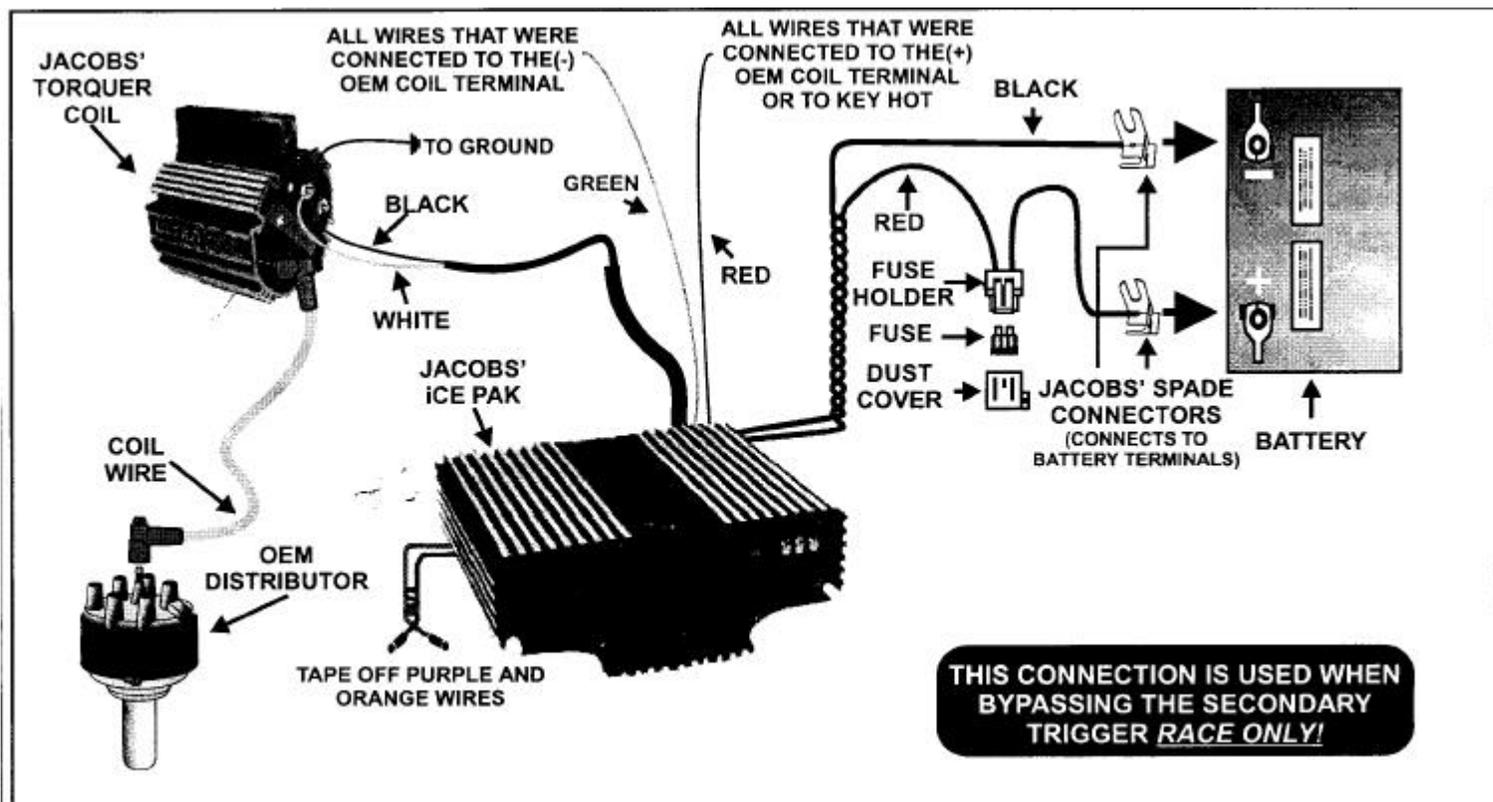

FIGURE 9: CONNECTIONS BYPASSING THE SECONDARY TRIGGER - RACE ONLY!
D. CONNECTIONS BYPASSING THE SECONDARY TRIGGER - RACE ONLY! (REFER TO FIG. 9, ABOVE)
For race-only applications, the Secondary Trigger can be eliminated as shown in **FIGURE 9**, above.